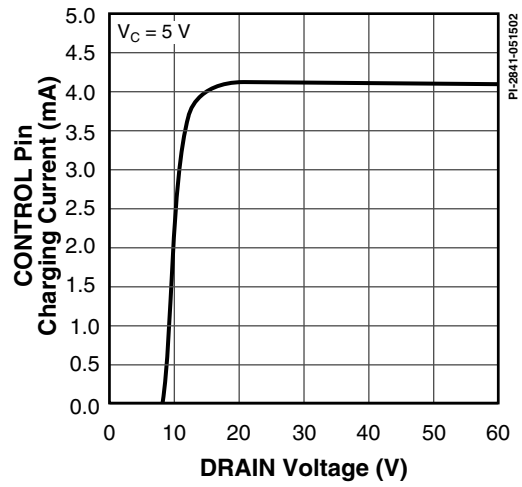

Figure 45. I_c vs. DRAIN Voltage.
- D. It is possible to start up and operate DPA-Switch at DRAIN voltages well below 16 V. However, the CONTROL pin charging current is reduced, which affects start-up time, auto-restart frequency, and auto-restart duty cycle. Refer to Figure 45, the characteristic graph on CONTROL pin charge current (I_C) vs. DRAIN voltage for low voltage operation characteristics.